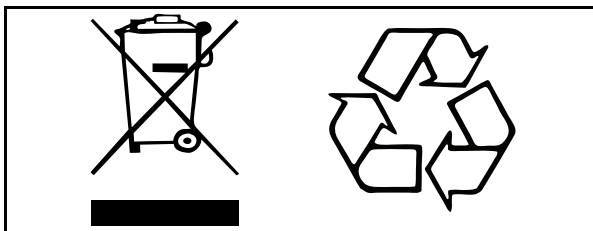

Fig. 2
- For safe disposal of the batteries, the rules according to the WEEE directive (Waste of Electronic and Electrical Equipment) as well as local laws and regulations must be followed. If not they may explode, leak and cause personal injury. When returning batteries, insulate their terminals with adhesive tape. Otherwise, the residual electricity in used batteries may cause fire or explosion. Fig. 2 below shows the symbols for disposal and recycling.